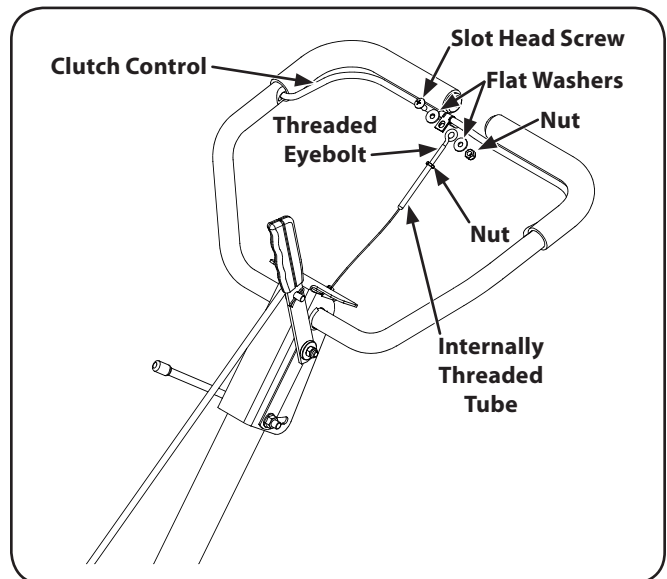

Figure 3-4
4. Remove the slot head screw, nut, and two flat washers from the clutch bail. See Fig. 3-4.
- Thread the eyebolt and nut removed earlier into the internally threaded tube at the end of the cable. Thread engagement should be about $\frac{3}{4}$ ". Tighten the nut against the tube at end of cable. See Fig. 3-4.